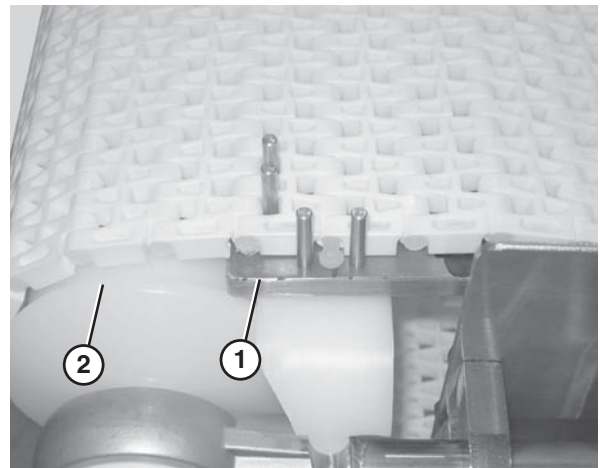

Figure 45
1. Secure the retaining head side of the belt. Use the belt removal tool (Figure 45, item 1) for 1" pitch belts. For all other belts, position the section of belt so that it is braced by the flanged puck (Figure 45, item 2).